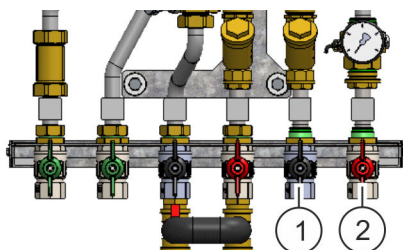

Fig. 27: Connecting the radiators
1. ➔ Connect the return line to the heating connection return line (Fig. 27/1) and tighten it by hand.
2. ➔ Connect the flow line to the heating connection flow line (Fig. 27/2) and tighten it by hand.